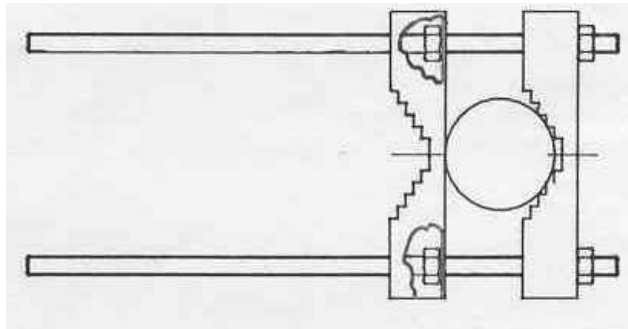

Figure 2: Top view of Bracket Fitment to Antenna
2. Fit two pairs of tube grips to the lower metal sleeve of the antenna, as shown in Figure 2 and 3, with only about 3/8" (10mm) of studding extending out. Ensure the grips are about 3" (80mm) from each end of the antenna sleeve, i.e. well spaced apart, ensuring they are both in line when viewed along the antenna. Hand tighten the nuts sufficiently to prevent the grips from slipping, final tightening will be done on the pole later.